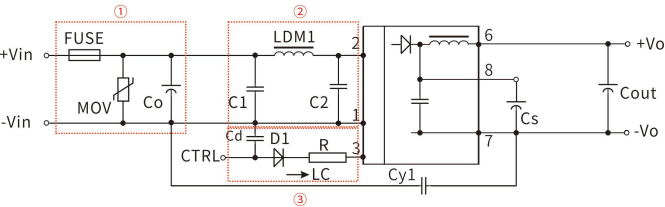

Figure 3
- ① Part ① in Figure 3 is used for EMS testing; Part ② is used for EMI filtering, which can be selected according to requirements;
- ② V_c is the voltage of the Ctrl terminal relative to the input ground GND, V_d is the forward voltage drop of D1, I_c is the current flowing into the Ctrl terminal, generally 5-10mA, and the peripheral circuit of the Ctrl terminal is shown in Figure 3-③;
- ③ If there is no parameter description attached to the component in the figure, this component is not required in the periphery of this model.